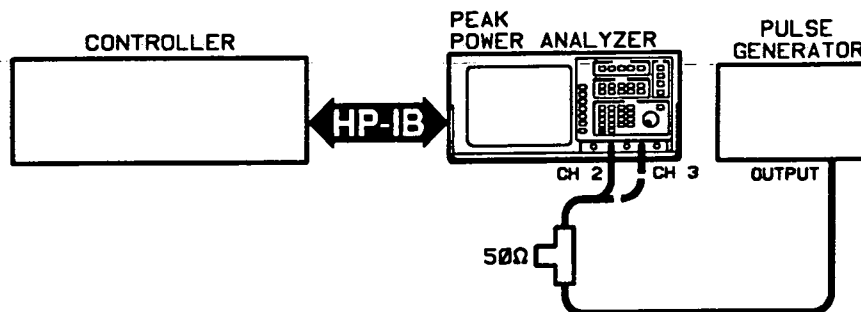

Figure 2-60. Pulse Flatness Adjustment Setup
1. Set the address of the Peak Power Analyzer to seven (7) using the following steps:
5. Connect the equipment as described on the screen and shown in figure 2-60.